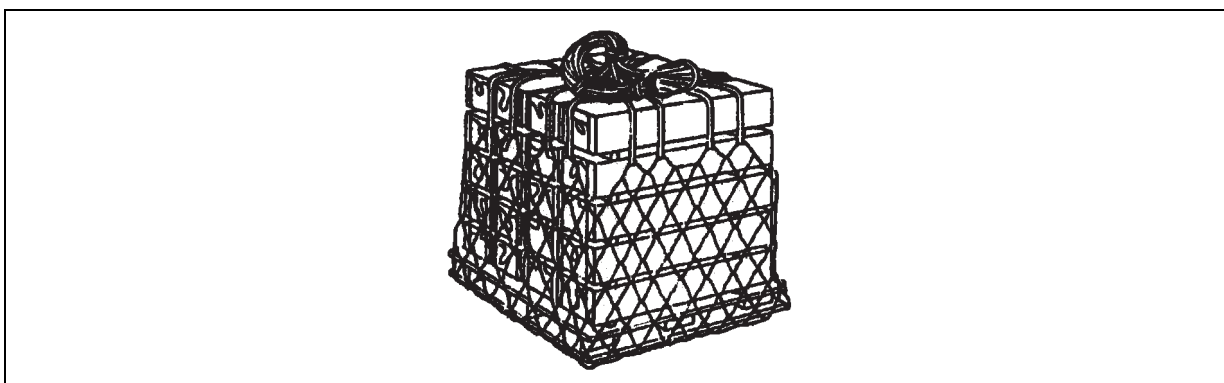

Figure 7-12. Lifting Legs Coiled on Top of Load
- Coil the lifting legs on top of the load. The net is now ready for hookup to the helicopter (figure 7-12). If the load must be moved after it is rigged, carefully guide the forklift forks through the net and into the pallet slots. Pallets can be stored temporarily with nets rigged around them. However, they should not be stored on concrete. Placing an empty pallet on the